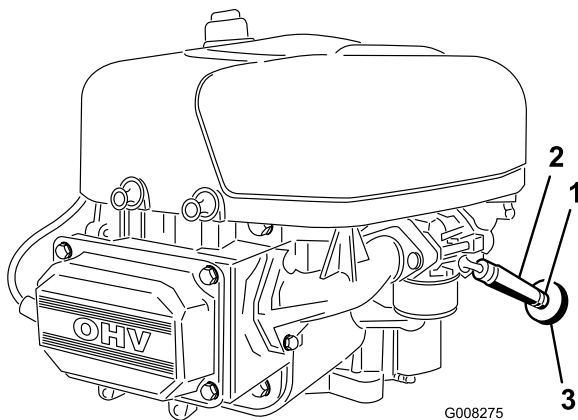

Figure 27
7. Loosen the hose clamp at the fuel filter and slide it up the fuel line away from the fuel filter (Figure 27).
8. Pull the fuel line off the fuel filter (Figure 27).
11. Slide the hose clamp close to the fuel filter to secure the fuel line (Figure 27).
The best time to replace the fuel filter (Figure 27) is when the fuel tank is empty. Never install a dirty fuel filter after it has been removed from the fuel line.